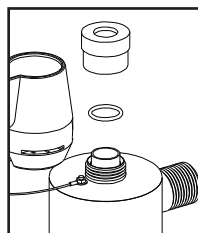
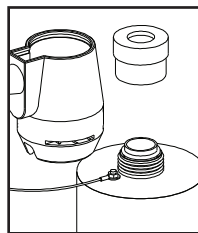

FIGURE 3C
FIGURE 3D
- Clean the sleeve as outlined in above, or replace with a new sleeve. Reinstall the quartz sleeve in the reverse order. The Cobalt reactor is designed for easy installation of the quartz sleeve by incorporating a unique sleeve centering guide. To install the sleeve, carefully insert the sleeve into the reactor chamber (do not drop) and push the sleeve until it firmly seats in the end of the reactor centered in the sleeve centering guides (Figure 3c). Install a lubricated (silicone release grease) o-ring (Part number OR-212) onto the sleeve until it is positioned against the chamfered seat (Figure 3d).